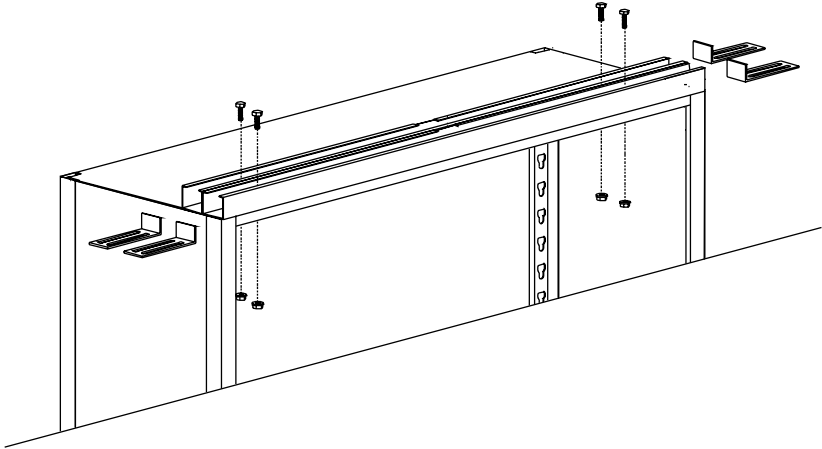

FIGURE 20
STEP 1.1 If the system is a single carriage application; remove two (2) 1/4 -20 x 3/4 hex head bolt from the left and two (2) right side of the Stationary Top Channel. Insert four (4) Top Safety Stops to each ends of all the Stationary Top Channels. Re-install and tighten the 1/4 -20 x 3/4 hex head bolts. **See Figure 20.**